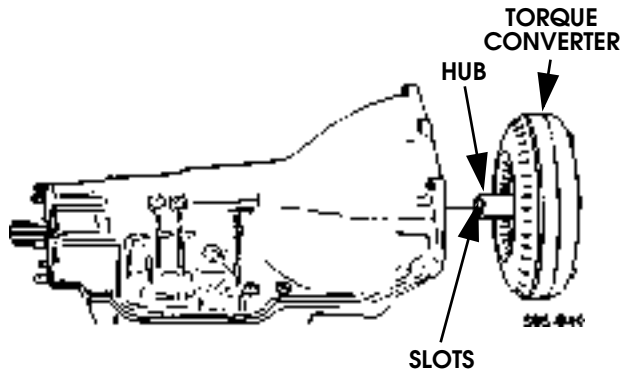

Figure 5-42: Torque Converter Removal/Installation
2. Remove torque converter from transmission (Figure 5-42).
7. Install torque converter. Be sure drive lugs on pump gear are engaged in drive slots of converter hub (Figure 5-42).